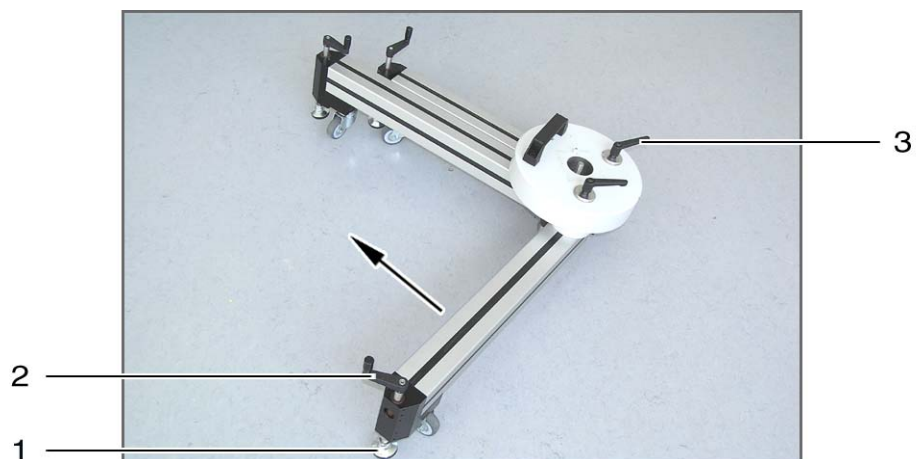

Fig. 50: Tripod foot, partially folded
13. Undo retainer on tripod foot and fold up tripod foot (see Fig. 50)